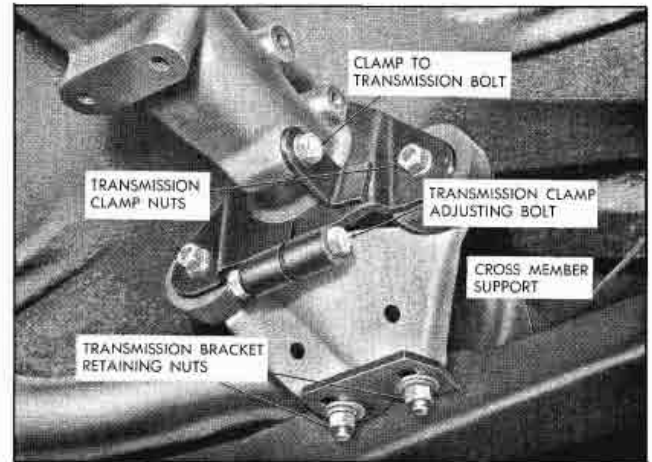

Fig. 7-32 Transmission Rear Extension Support
5. Remove two transmission brackets to cross member retaining nuts (Fig. 7-32).